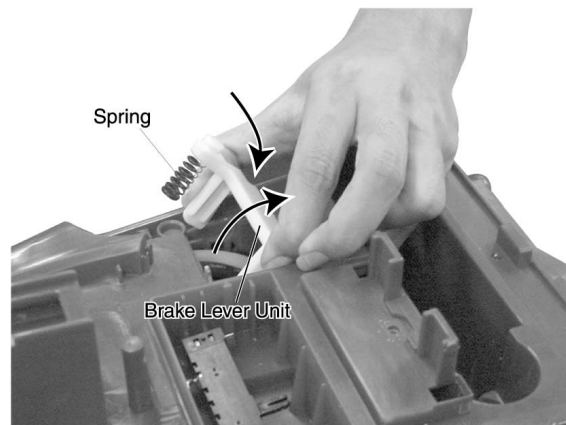

Fig.9
9. Push one end and pull upward the Brake Lever unit as shown. (Fig.9)